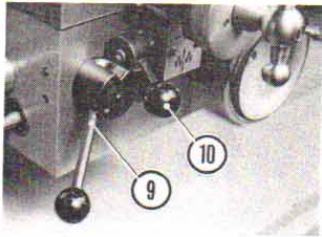

Fig. 24
Function is controlled by the feed lever No. ⑩, Fig. 24, which is lifted from the neutral position to engage longitudinal travel and depressed from the neutral position to engage cross feed.
This lever is interlocked with the leadscrew lever No. ⑨, Fig. 24, to prevent simultaneous engagement.